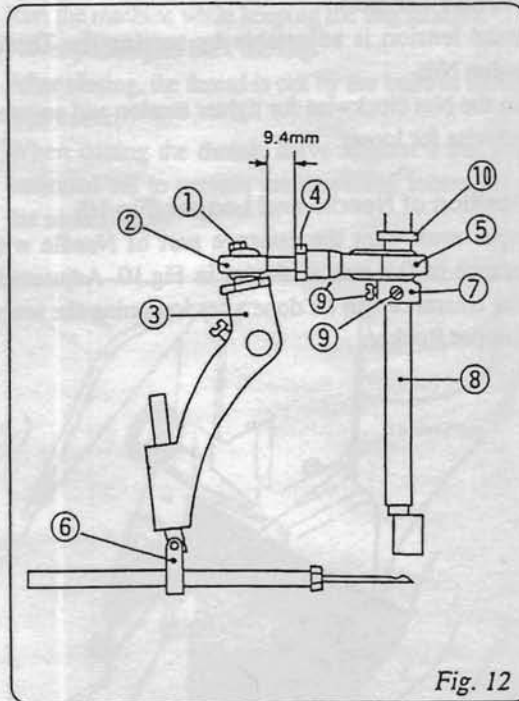

Fig. 12
For replacement or adjustment of Ball Rod, refer to Fig.12.
The position of Needle is adjusted so that the distance between the point of Needle (at its highest position) and Throat Plate is 13 mm, after loosening screw on Needle Bar Connection Assembly ⑥ in Fig.12.
① Screw 11/64S40089
② Rod End 6APOS8
③ Needle Bar Lever 242051A
④ Nut 1N8
⑤ Connecting Rod Assembly 242011A
⑥ Needle Bar Connection Assembly 242101A
⑦ Eccentric Cam (part of Connecting Rod Assembly) 242011
⑧ Main Shaft 241101
⑨ ⑨ Screw 11/64S40001
⑩ Spacer 241161